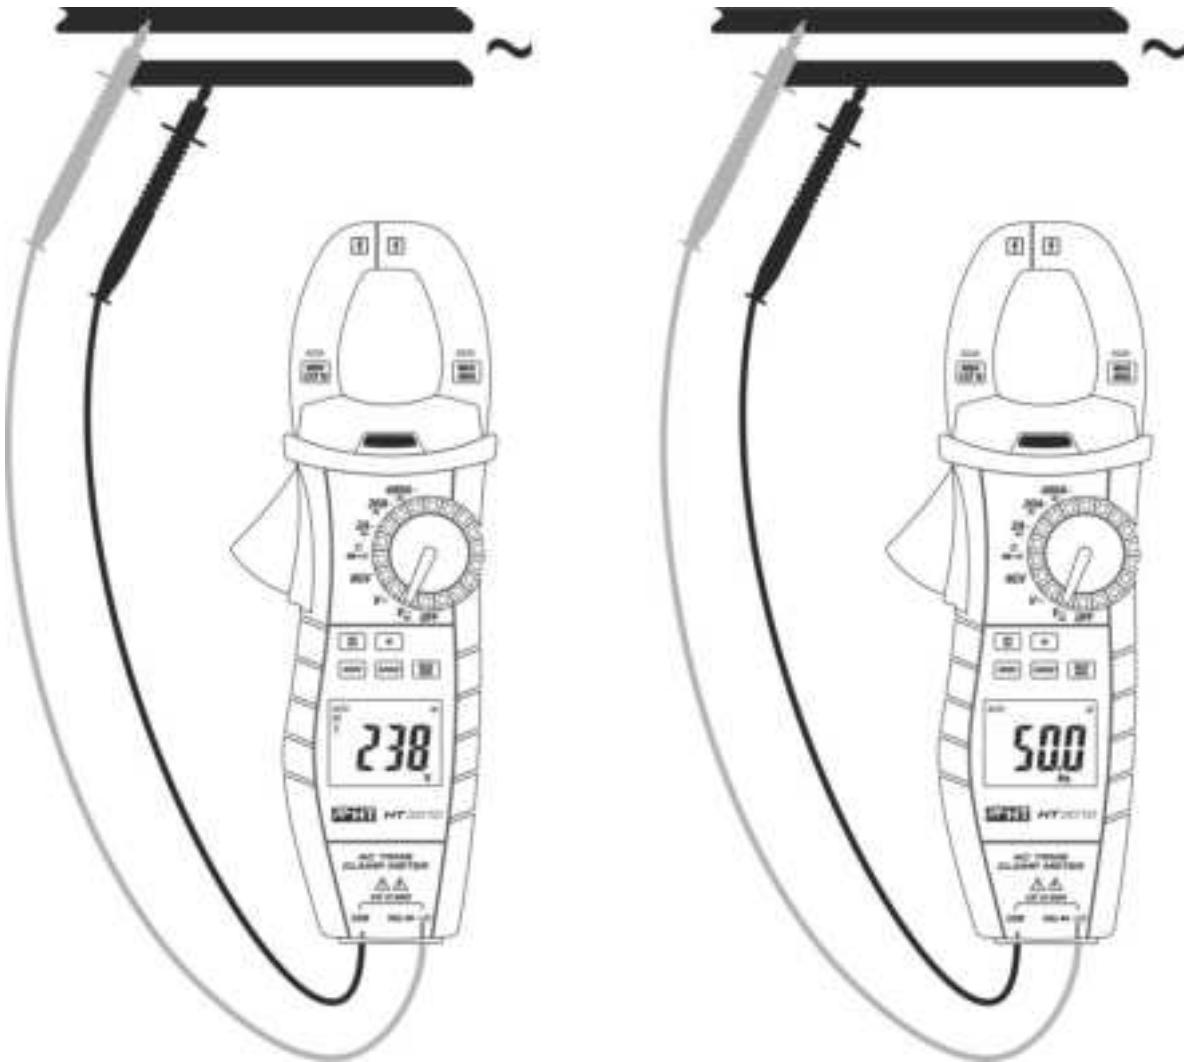

Fig. 5: Use of the instrument for AC Voltage and Frequency measurement
3. Position the test leads in the desired points of the circuit to be measured (see Fig. 5 – left part). The display shows the value of voltage.
5. Press the **MODE** key until the symbol “Hz” is displayed for measuring frequency (see Fig. 5 – right part)